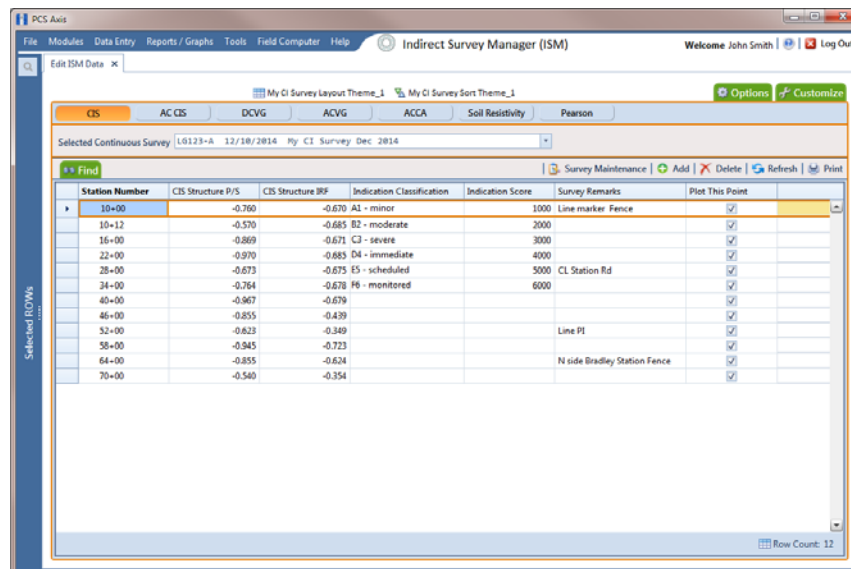

Figure 7-81. Edit ISM Data
- 3 Click **Data Entry > Edit ISM Data** to open the ISM data entry grid. Then click a button labeled with the type of continuous survey data you want to work with, such as the **CIS** button  (Figure 7-81).